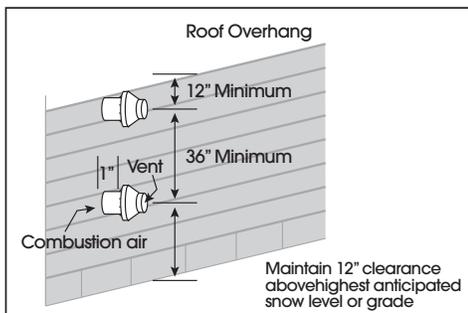

Figure 4-Sidewall Termination for Multiple Vertical Extended Concentric Vents
- Refer to Figures 4 & 6 when venting multiple units using multiple Extended Concentric Vents.
**NOTE:** Maintain clearance dimensions as shown in Figure 4, 5, 6 & 7.